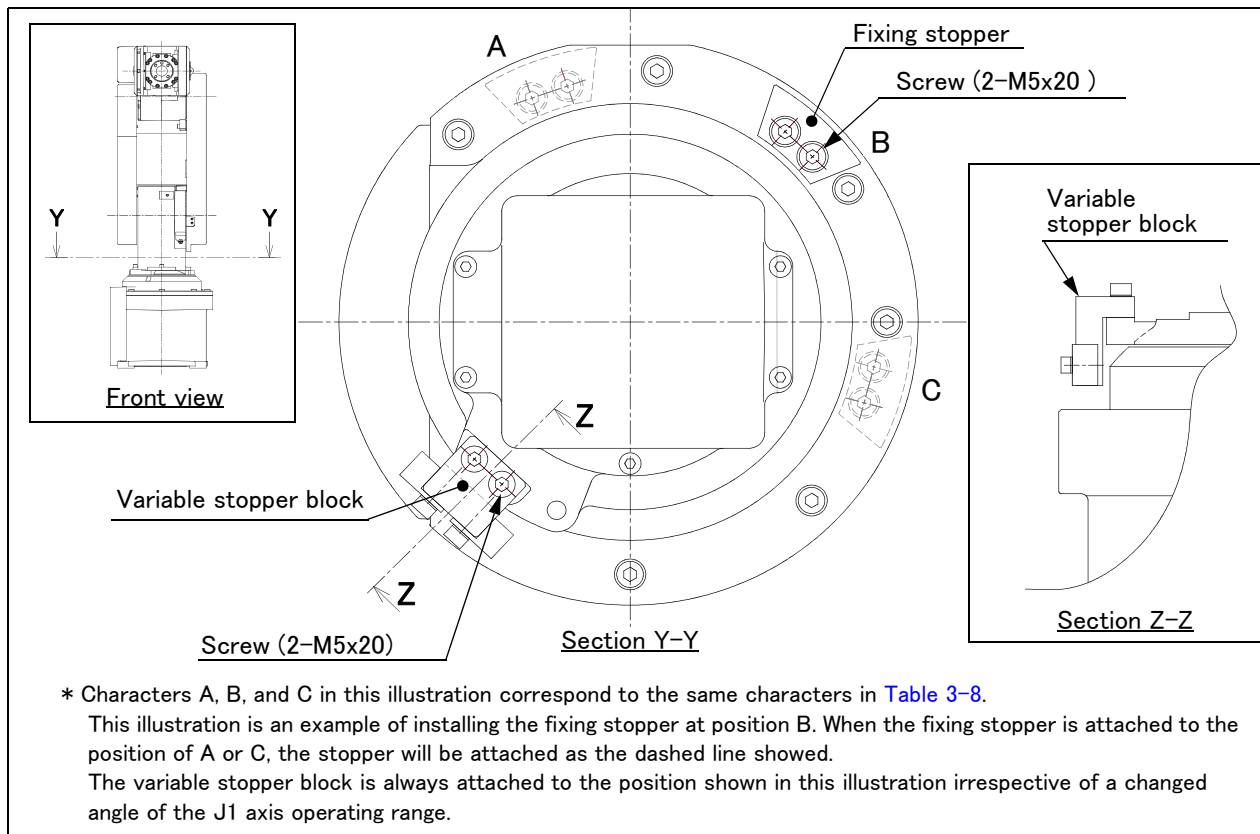

Fig.3-1 : Installation procedure of optional stoppers
Refer to Fig. 3-1 for details of the installation positions of the stoppers.
Note1) Characters A, B, and C in this table are correspond to the same characters in Fig. 3-1.
- 2) Refer to Fig. 3-1 and install the fixing stopper to the installation position corresponding to the angle to change. Tighten the screw firmly to fix the fixing stopper. (Tightening torque: 9.5 Nm)
- 3) Install the variable stopper block to the position shown in Fig. 3-1. Tighten screws firmly to fix the variable stopper block as well as the fixing stopper. (Tightening torque: 9.5 Nm)
(4) Setting the parameter